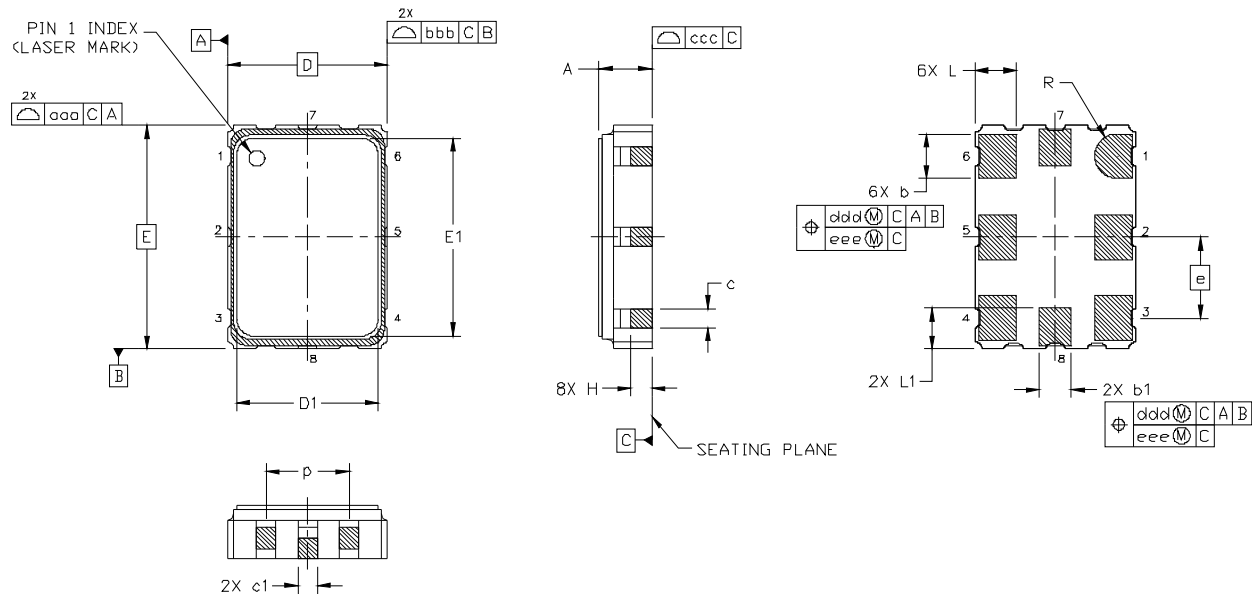

Figure 8. Si570/Si571 Outline Diagram
Figure 8 illustrates the package details for the Si570/Si571. Table 16 lists the values for the dimensions shown in the illustration.
- Updated Figure 8 and Table 16 on page 29 to include production test sidepads. This change is for reference only as the sidepads are raised above the seating plane and do not impact PCB layout.